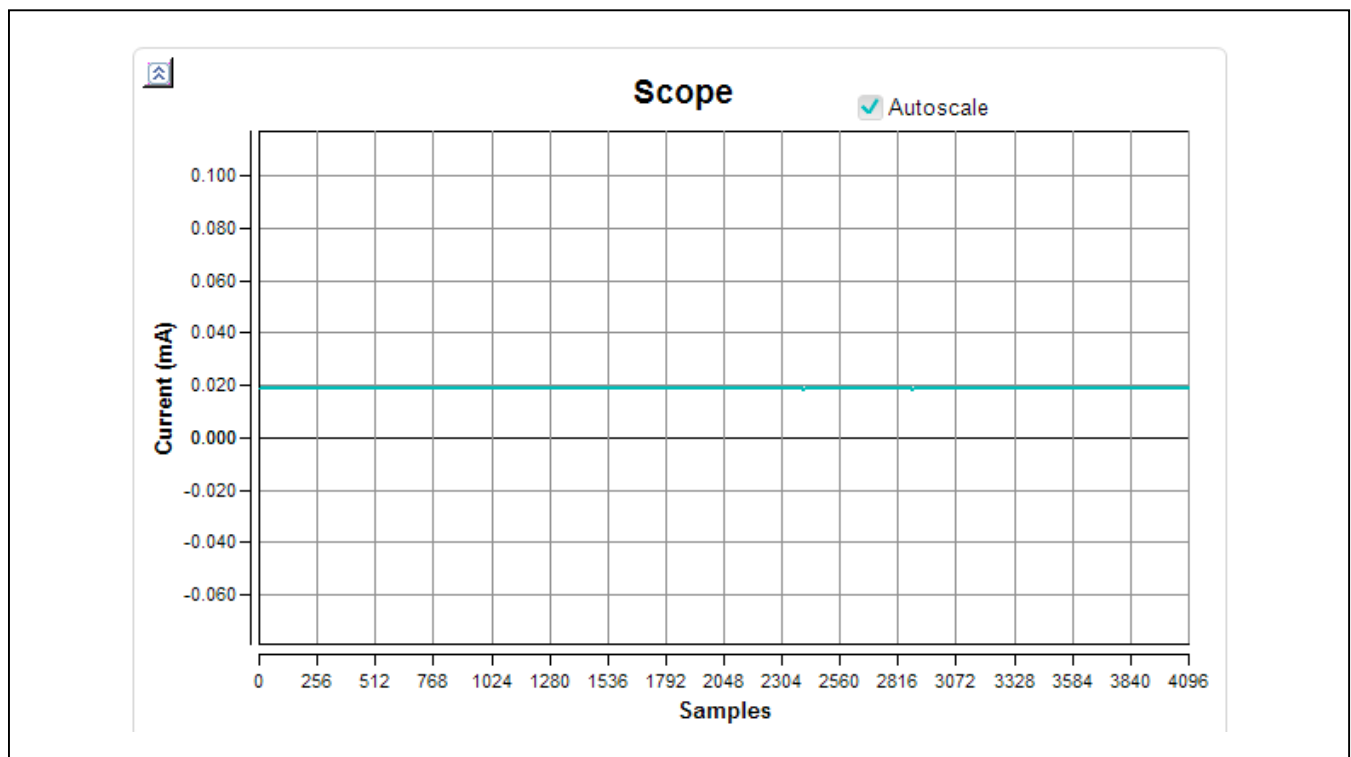

Figure 9. Real Time Scope GUI
5) **Real Time Scope:** The scope on the bottom left side of the GUI represents the measured data with number of samples in X-axis and Y-axis is selected from the available plot configurations options. Figure 9 depicts the options that determine the Y-axis in the scope.